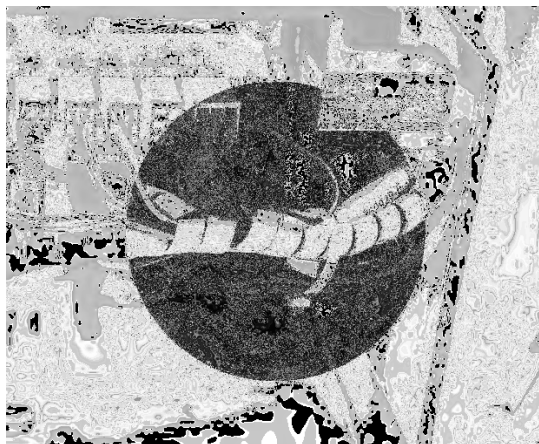

Figure 15 – Backplane Harness Cable Tie
10. Once all connectors are installed, install cable tie as shown in Figure 15 (Backplane Harness Cable Tie).